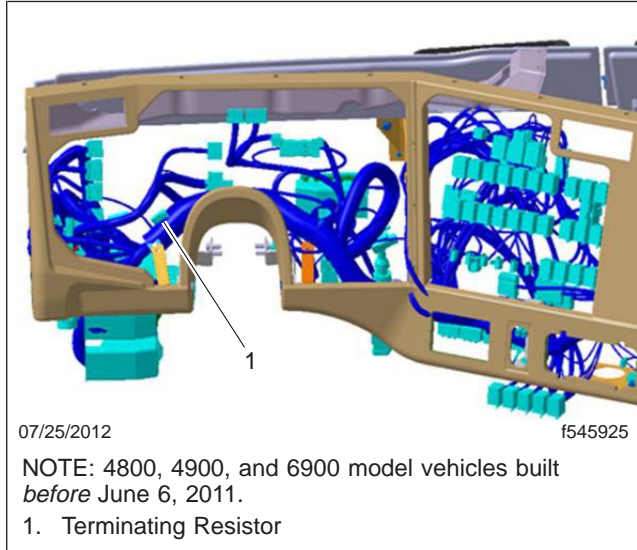

Fig. 5, Terminating Resistor Located Behind the Driver-Side Instrument Panel
- On 4800, 4900, and 6900 models, the terminating resistor is located behind the driver-side instrument panel. See Fig. 5.